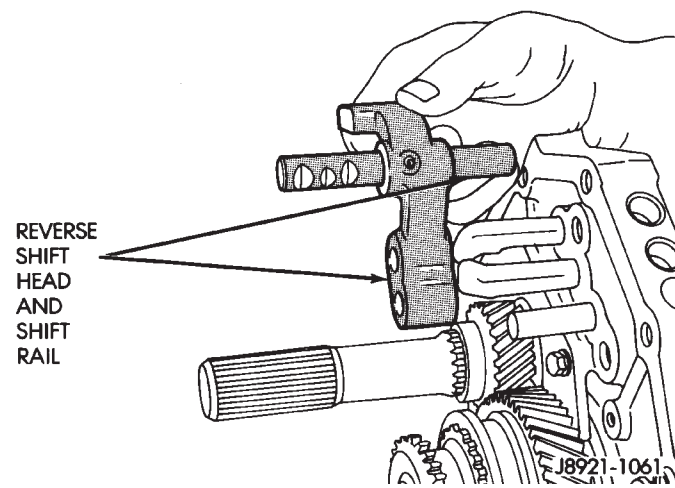

Fig. 55 Remove Reverse Shift Head Assembly
- (7) Remove the reverse shift head and rail assembly from the intermediate plate (Fig. 55).